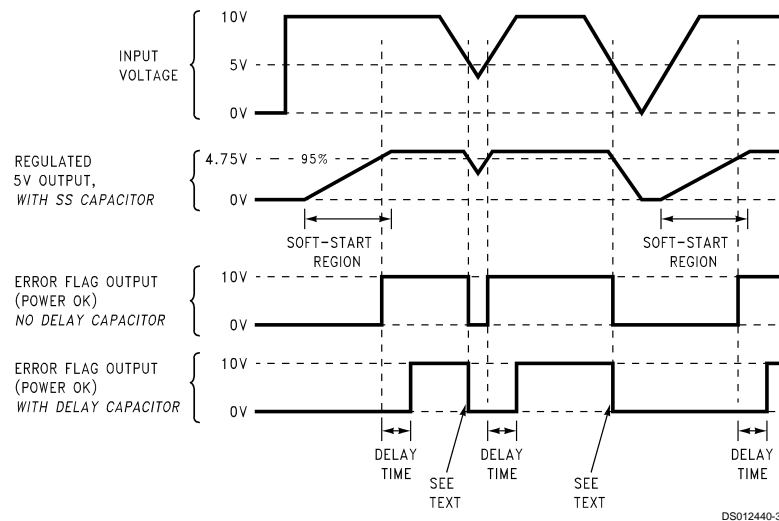

FIGURE 14. Timing Diagram for 5V Output
**CDELAY** — Provides delay for the error flag output. See the upper curve in Figure 13, and also refer to timing diagrams in Figure 14. A capacitor on this pin provides a time delay between the time the regulated output voltage (when it is increasing in value) reaches 95% of the nominal output voltage, and the time the error flag output goes high. A 3  $\mu\text{A}$  constant current from the delay pin charges the delay capacitor resulting in a voltage ramp. When this voltage reaches a threshold of approximately 1.3V, the open collector error flag output (or power OK) goes high. This signal can be used to indicate that the regulated output has reached the correct voltage and has stabilized.